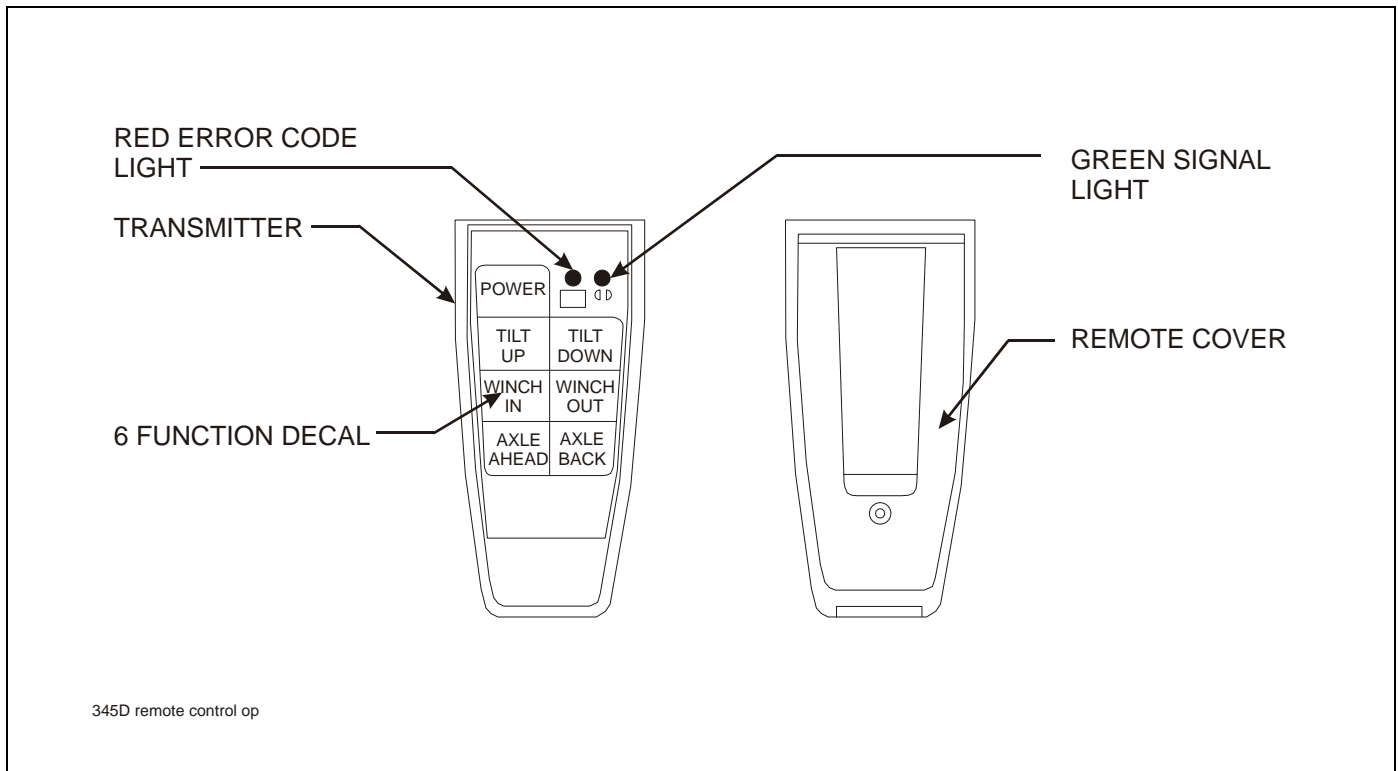

Figure 3-8: Remote Control
1. A wireless six function radio remote control is available (See Figure 3-8.)